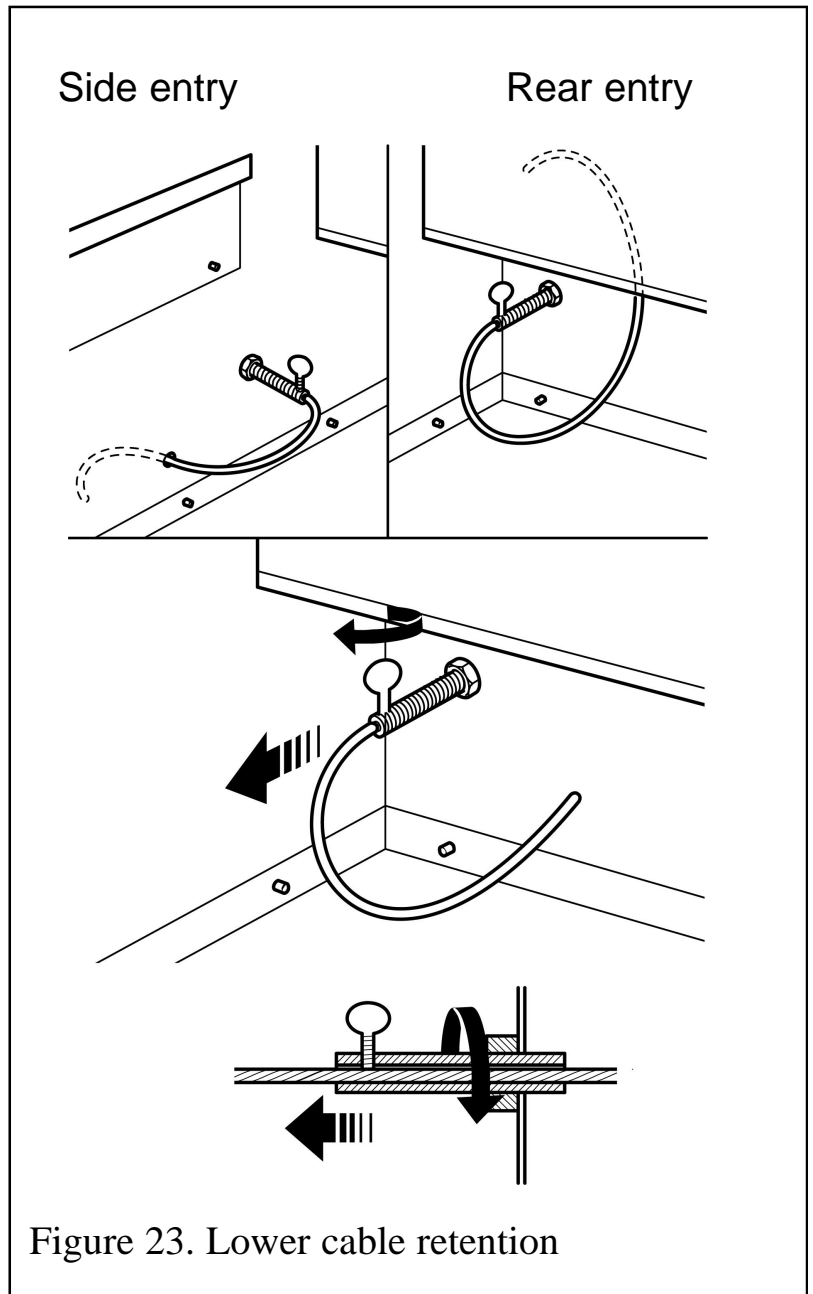

Figure 23. Lower cable retention
11. Pull each cable taut. Push the cable retainers hard up against the back panel. The end of the cable adjuster will pass into the hole. Tighten the screws in the retainers so that they clamp the cables in position. Apply tension to the cables by turning the hexagonal adjusters by hand (See figure 23).
14. Feed the free length of the cables into the gap between the inner and outer back panels so that they are available to allow easy removal and refitting of the appliance during subsequent service calls. **Do not cut off the free lengths of cable.** On precast flue installations feed the cables into the small holes at the base of the side panels (See figure 23).